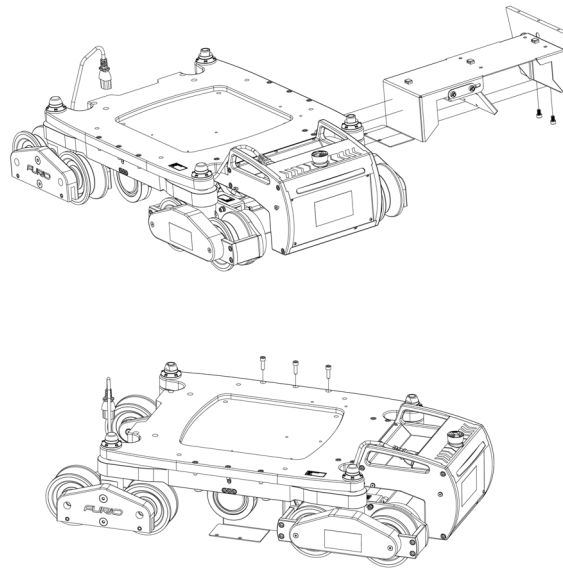

Figure 15 - BPS Installation Orientation
2. Slide the BPS unit underneath the dolly opposite the drive wheel, ensuring the scanning sensor faces the drive wheel. Refer to **Figure 15**.
Note: The BPS unit only has one installation orientation. If your installation does not fit properly, ensure that the scanning sensor is near the drive wheel. Refer to **Figure 15**.